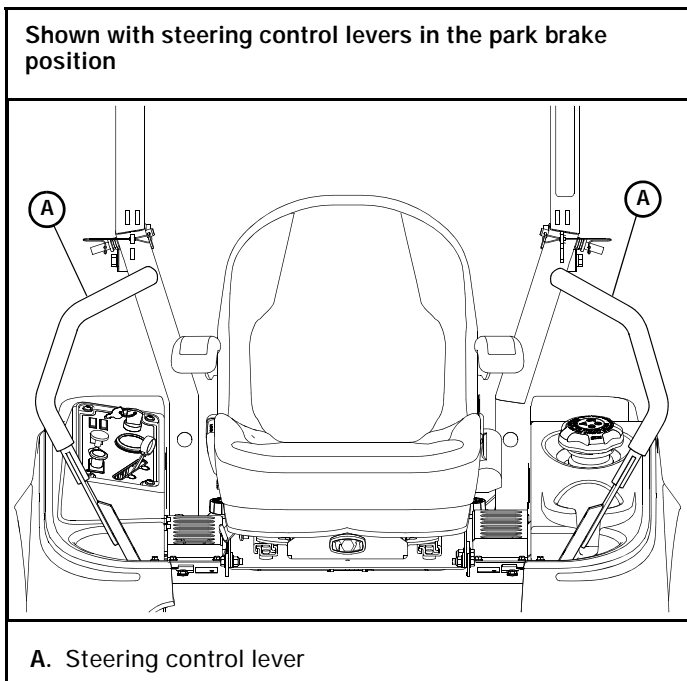

Figure 4-3
5. Set both steering control levers in the park brake position. Figure 4-3